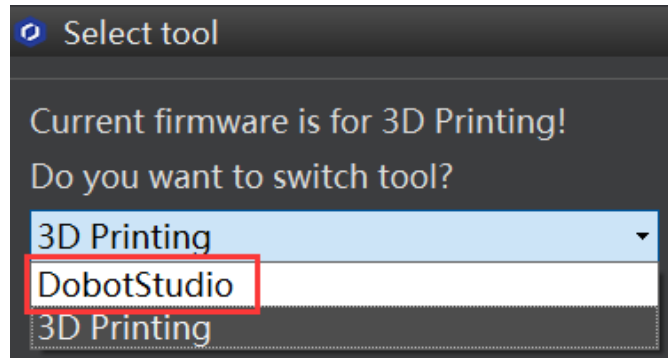

Figure 5.75 Select the DobotStudio to upgrade the Dobot firmware
1. Select **DobotStudio** to upgrade the Dobot firmware, as shown in Figure 5.75. The **Question** dialog box is displayed.